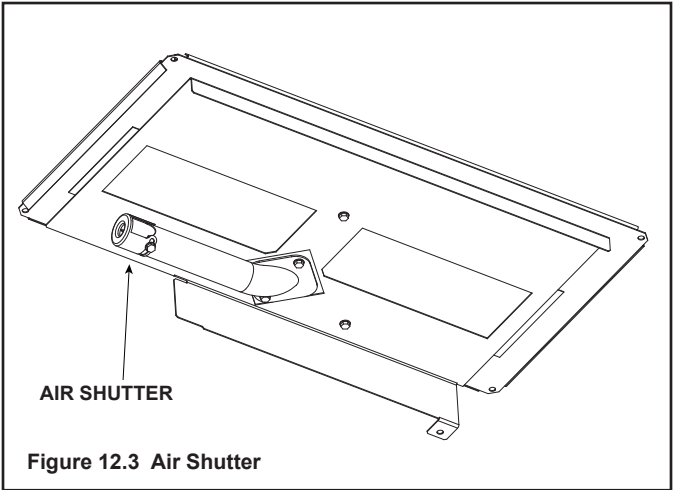

Figure 12.3 Air Shutter
- Place dime-size pieces of Glowing Embers® just in front of the port trail, but not on or in between the ports. See Figure 12.3 (QFI30FB-C) or Figure 12.4 (QFI35FB-C). Care should be taken so that the ports are not covered. Failure to follow this procedure will likely cause lighting and sooting problems.
Air shutter settings should be adjusted by a qualified service technician at the time of installation. The air shutter is set at the factory for minimum vertical vent run. Adjust air shutter for longer vertical runs. See Figure 12.3.